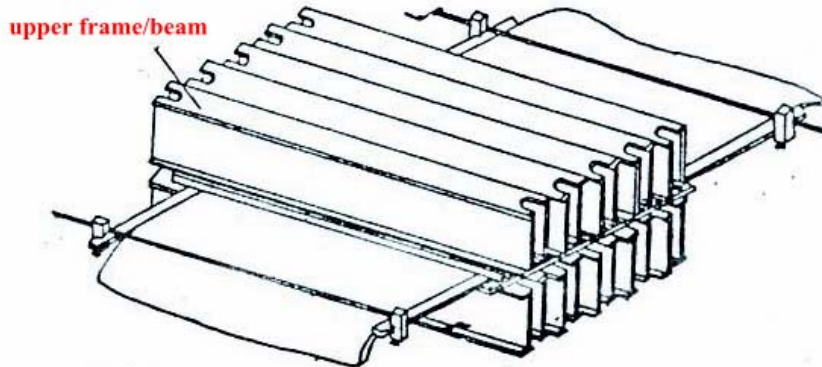

Fig. 9
(5) As shown in figure 9, the upper frames are placed on the thermal insulation plate, and aligned to the lower frames.